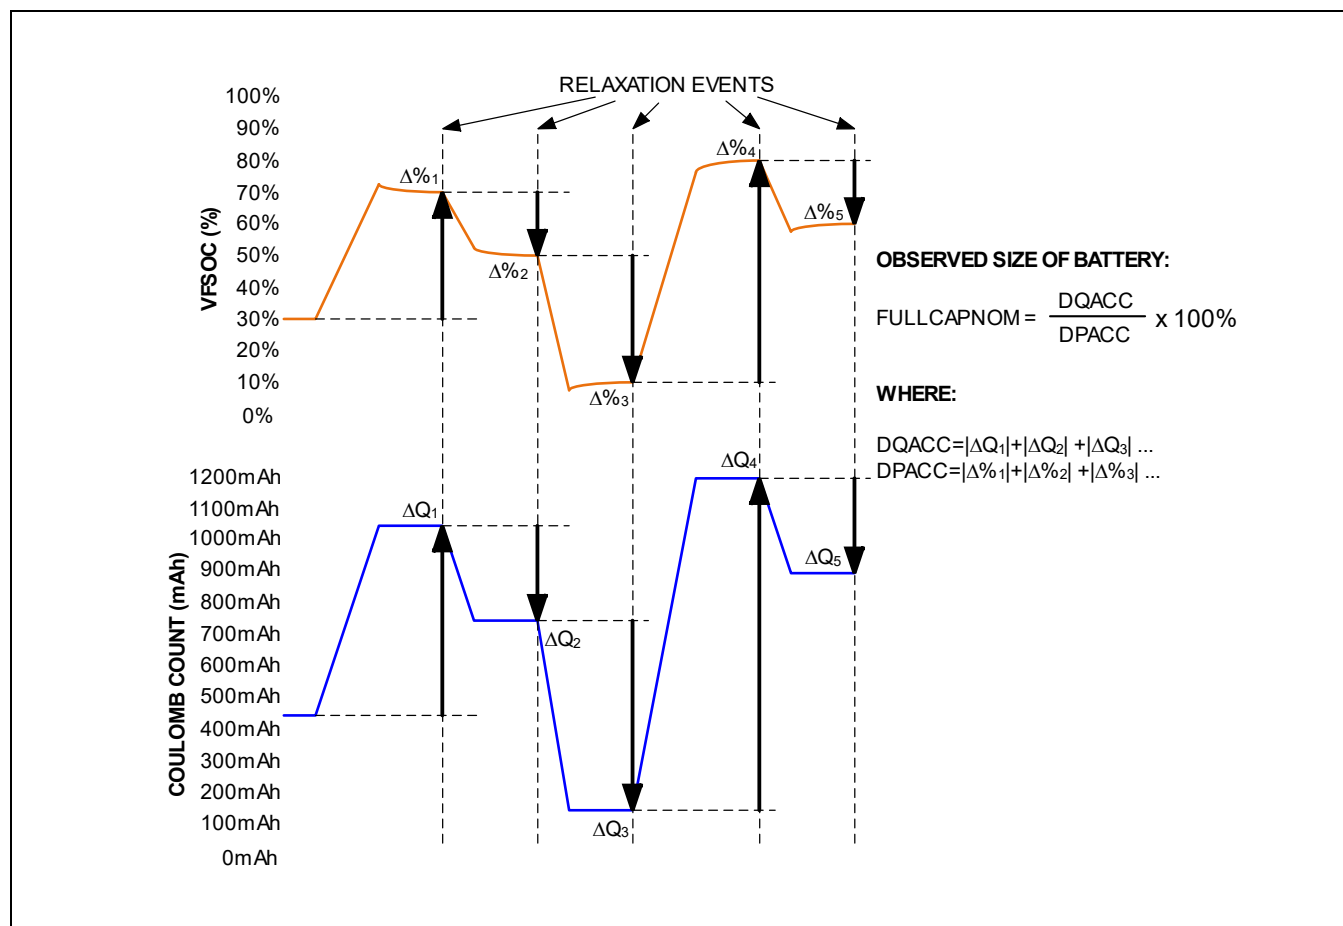

Figure 15. ModelGauge m5 Learns Full Capacity during Arbitrary Cycling
- **Cell Capacity (FullCapNom Register).** This is the total cell capacity at full, including some capacity that sometimes is not available to the application due to high loads and/or low temperature. The IC periodically compares the percent change based on an open circuit voltage measurement with the coulomb-count change as the cell charges and discharges, maintaining an accurate estimation of the cell capacity in mAh as the cell ages. See Figure 15.